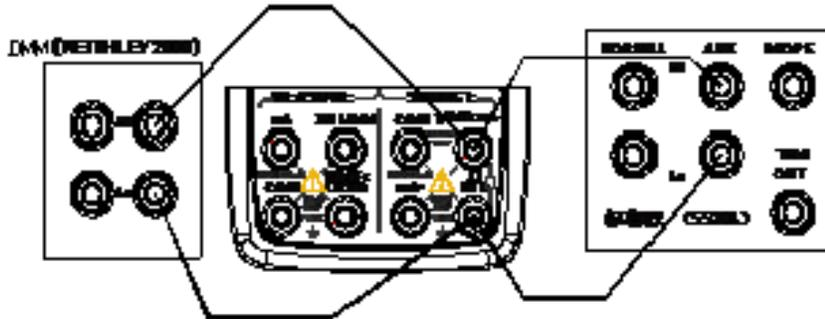

Figure 21 Adjusting resistance source
Step 1: Using the function selector switch SOURCE (FUNC), select resistance function. Connect the lead cables for measurement to the standard digital meter as shown in Figure 21.